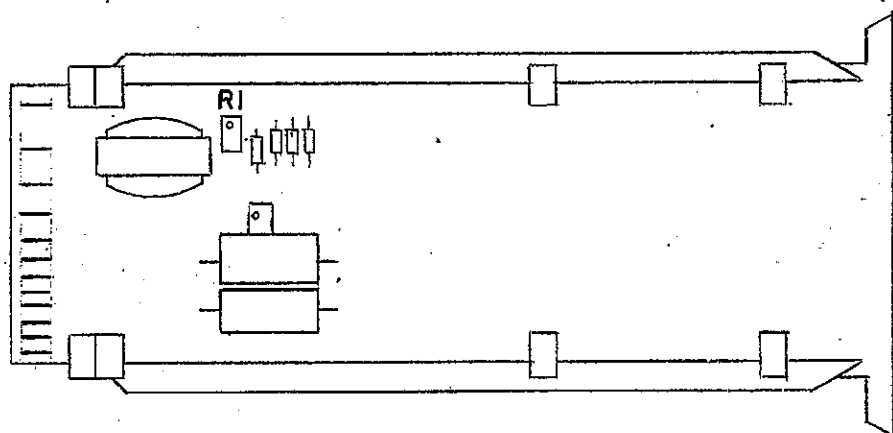

FIGURE 2 POTENTIOMETER LOCATION FOR
8. Adjust the voltmeter module "Calibration Adjust" for full scale deflection of 500 Vrms on the voltmeter module meter. This adjustment is labelled "R1" and is located towards the back of the voltmeter module. (See Figure 2 on Page 1.) This is a 23 turn potentiometer.